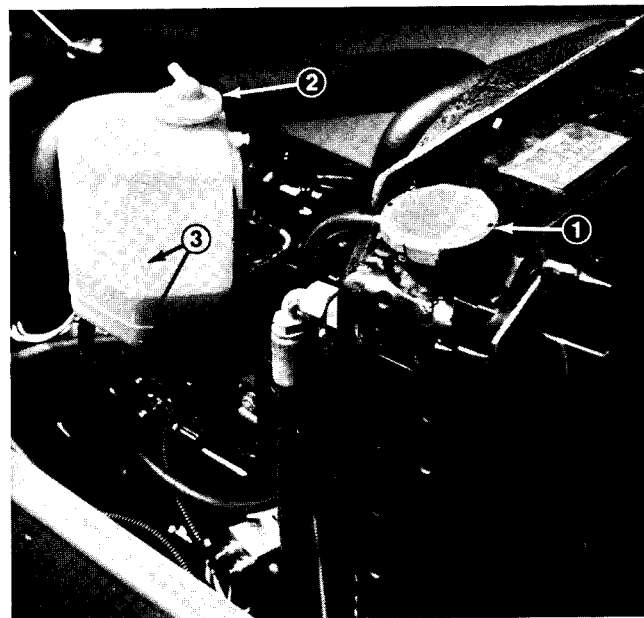

Figure 19
1. Open the hood. Remove the radiator cap (Fig. 19).